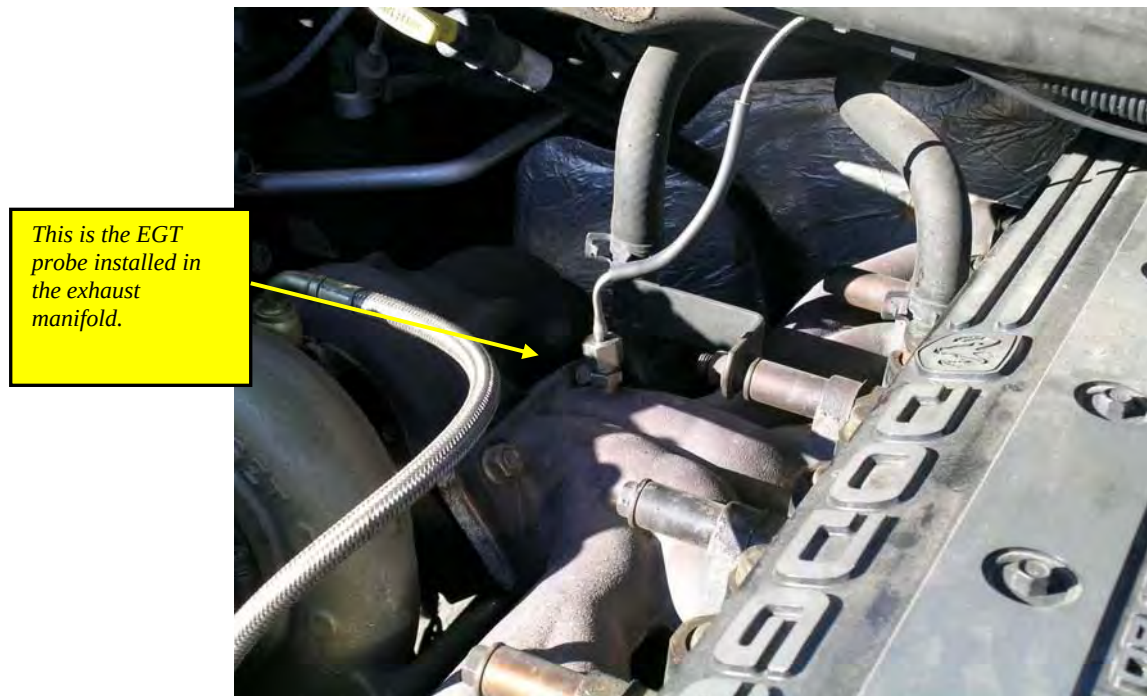

Figure 23 – EGT probe location
1. **The EGT probe must be mounted before the turbo for the *Juice* safety features to operate properly.** Using a 5/16" or 21/64" drill bit, drill a hole in the exhaust manifold as shown in figure 23. Use a 1/8" NPT tap to thread the hole.